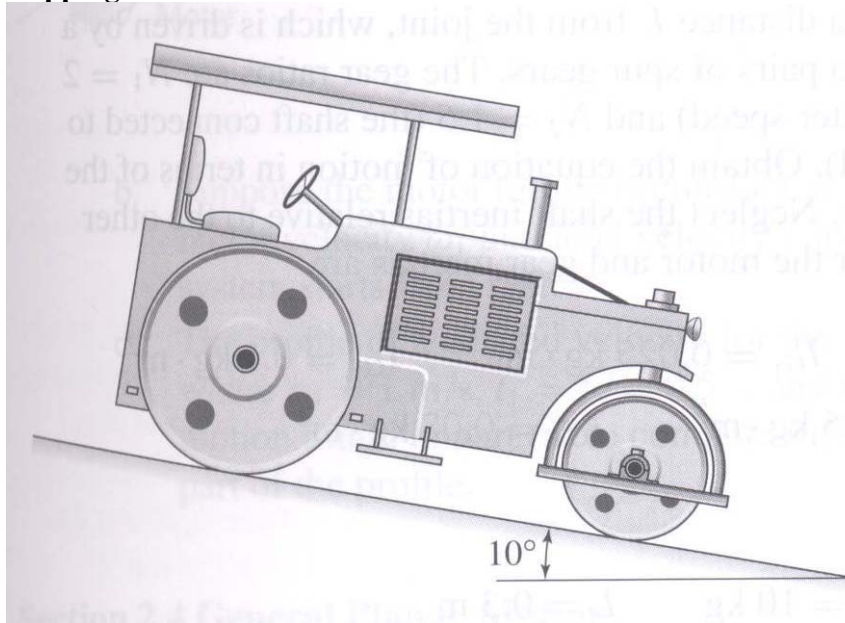

Figure 5
5. At time $t = 0$, the operator of the road roller disengages the transmission so that the vehicle rolls down the incline (see Figure 5). Derive a dynamic model for the vehicle's speed. The two rear wheels weigh 250 kg each and have a radius of 1 m. The front wheel weighs 400 kg and has a radius of 0.5 m. The vehicle body weights 4500 kg. Assume the wheels roll without slipping.